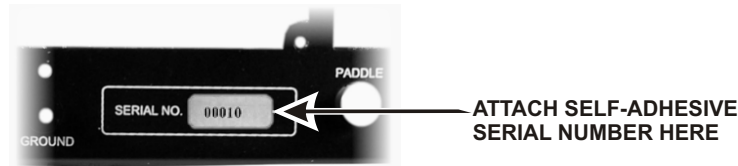

Figure 23. Attaching Serial Number.
□ Peel the backing from the self-adhesive serial number label and attach it to the back panel as shown in Figure 23. You may wait until the assembly is finished before attaching the serial number, but at this point you can lay the panel flat on the work surface to easily position the label square within the outline.